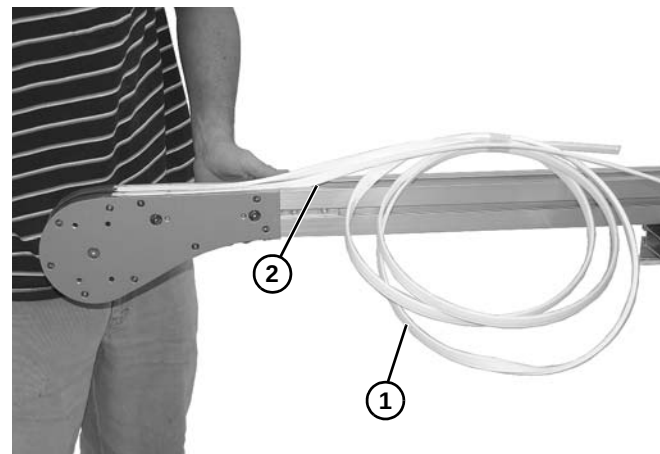

Figure 14
- Unroll wear strip (**Figure 14, item 1**).
- Guide wear strip into channel (**Figure 14, item 2**) on conveyor frame.